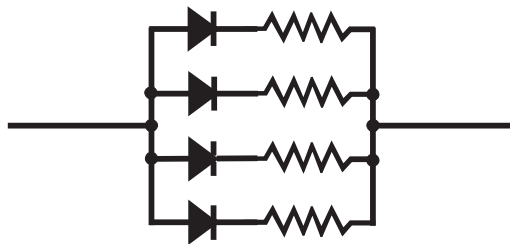

Fig. 8-10. Diodes in parallel, with current-equalizing resistors in series with each diode.
- Connect several diodes in parallel wherever a diode is needed in the circuit. *Current-equalizing resistors* are necessary (Fig. 8-10). The resistors should have small ohmic values. All the diodes should be identical.